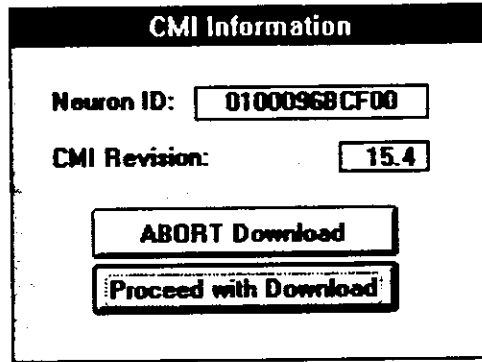

Figure 4-5. CMI Information Dialog with Download Options
- g. A message to read the CMI's software version number will be sent. The response message will appear as shown in Figure 4-5. If the version number is an older revision than what is to be downloaded, press the Proceed with Download button, and the CMI transceiver will be loaded with the new software. Should the message show that the CMI already has the latest software version, the download may be stopped by pressing the ABORT Download button. If the download is aborted, there will be no change to the CMI transceiver's software.